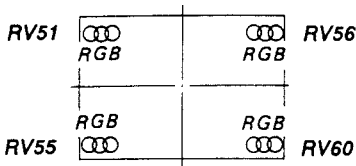

Fig. 1-24.
- Adjust RV51, RV55 and RV56, RV60 on the DC board to coincide with the R, G and B dots as shown in Fig. 1-24.